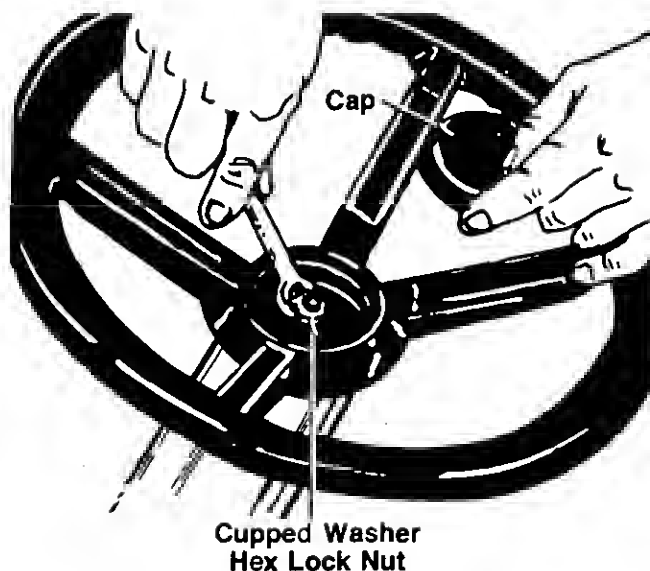

FIGURE 5.
11. Place steering wheel (C) in position desired. Make certain the steering wheel is seated over the end of the steering tube.
12. Place the cupped washer with the cupped side down over the steering shaft. Secure with 5/16" hex lock nut. See figure 5.